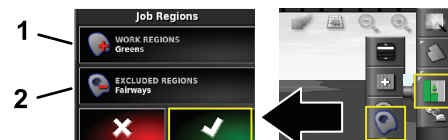

Figure 10
- Select the work region (Figure 10) that you are spraying (i.e. fairways, greens, tees, etc.).
- Select the excluded region(s) that you are not spraying (bunkers, trees, hazards, etc.), as shown in Figure 10.